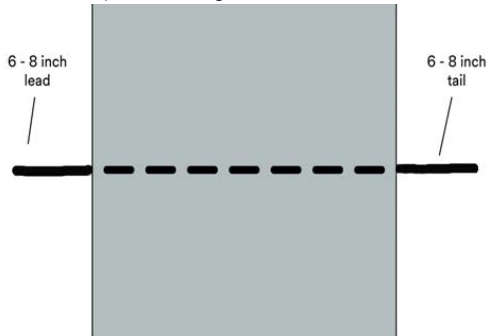

Figure 6.
2. Apply the film over the tape, leaving the lead and tail tape visible. (See Figure 6.)